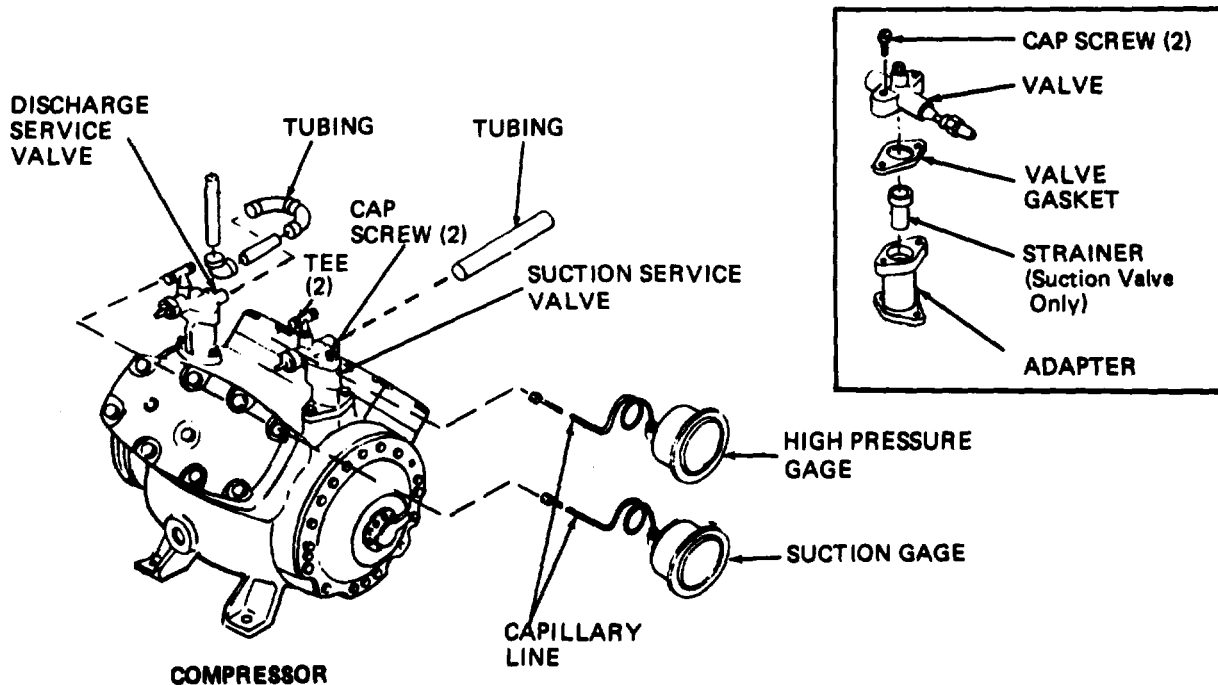

Figure 5-23, Compressor Service Valves
- (3) Close (frontseat) the two compressor service valves.
- (4) Loosen the flare caps on the suction and discharge valve tee fittings to permit the refrigerant trapped in the compressor to escape.
- (5) Remove the gage connections from the service valves (figure 5-23).
- (6) Unbolt the two service valves from the compressor (figure 5-23).
- (1) Close receiver liquid line valve and pump the system down (para. 5-7).
- (2) Turn off power.
- (3) Close compressor service valves, crack open the gauge port on the discharge service valve and release the pressure in the compressor. (See figure 5-23.)
- (4) Loosen the drive belts and remove them from the pulley.
- (5) Remove the compressor pulley.
- (6) If the seal plate can be worked on in the unit, then it is not necessary to remove the compressor from the unit. Otherwise, remove the compressor.
- (7) Remove the seal plate and gasket from the compressor body.
- (8) Remove the seal assembly.
- (9) Inspect the shaft for pitting or other damage that may make the new seal malfunction.